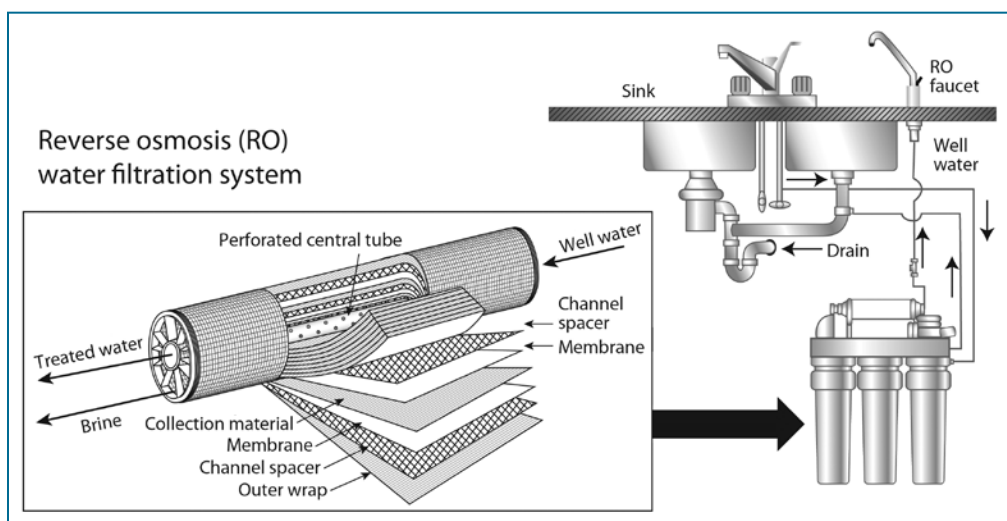

FIGURE 55. A home reverse-osmosis system.
Reverse osmosis (RO) is becoming a common home treatment method for reducing arsenic and total dissolved solids in drinking water (Fig. 55). Best known for its use in water desalinization projects, this method can also reduce chemical contaminants associated with unwanted color and taste. It may reduce up to 80 percent of pollutants such as arsenic and uranium, and many types of organic chemicals.